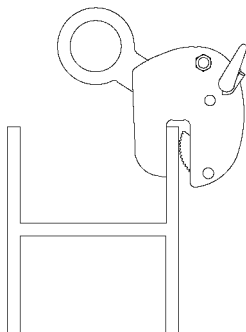

Figure 2
3. The “VL-BC” model is capable of lifting, transferring, and stacking of steel beams in the “H” position when lifting eye is over the web and between the flanges (Fig. 2).